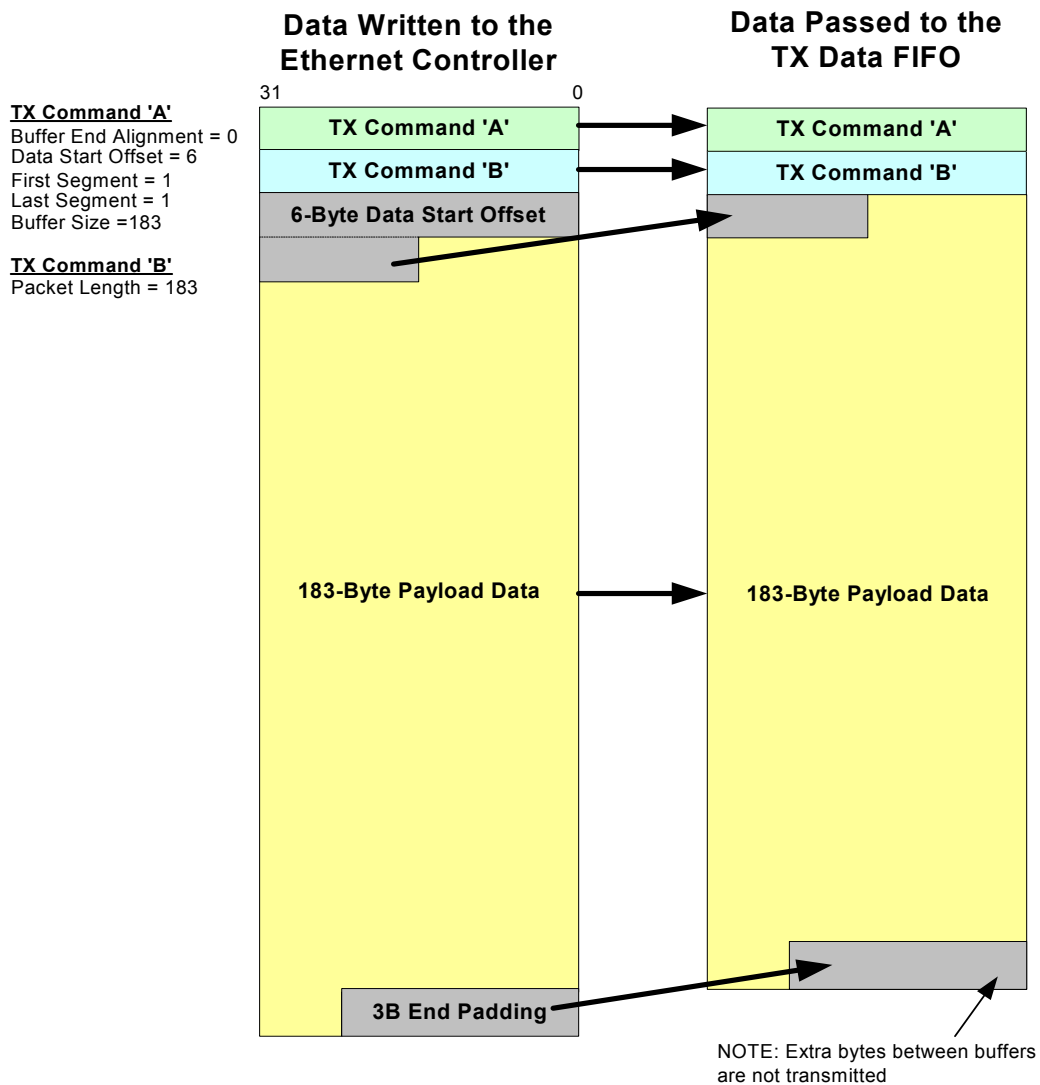

Figure 3.15 TX Example 2
**Note 3.16** The LAN9217 host bus interface supports 16-bit bus transfers; internally, all data paths are 32-bits wide. Figure 3.14 and Figure 3.15 describe the host write ordering for pairs of atomic 16-bit transactions.
Figure 3.15, “TX Example 2” illustrates the TX command structure for this example, and also shows how data is passed to the TX data FIFO. Note that the packet resides in a single TX Buffer, therefore both the FS and LS bits are set in TX command ‘A’.